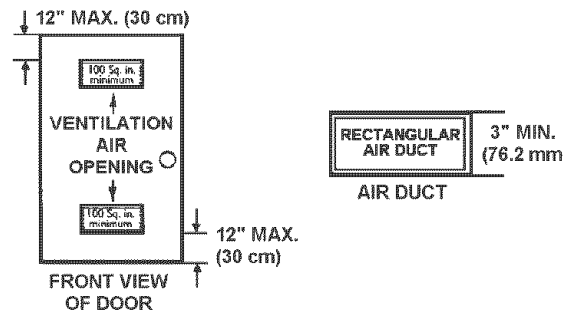
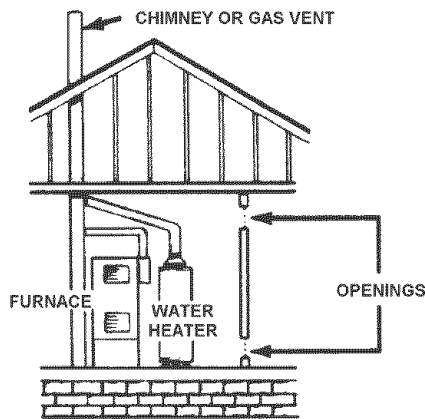

FIGURE 9.
FIGURE 10.
A gas water heater cannot operate properly without the correct amount of air for combustion, see Figure 9. Do not install in a confined area such as a closet, unless you provide air as shown in the *Locating The New Water Heater* section. Never obstruct the flow of ventilation air. If you have any doubts or questions at all, call your gas supplier. Failure to provide the proper amount of combustion air can result in a fire or explosion and cause death, serious bodily injury, or property damage.
A. ALL AIR FROM INSIDE BUILDINGS: (See Figure 9 and Figure 10)
B. ALL AIR FROM OUTDOORS: (See Figures 9, 11, 12 and 13)